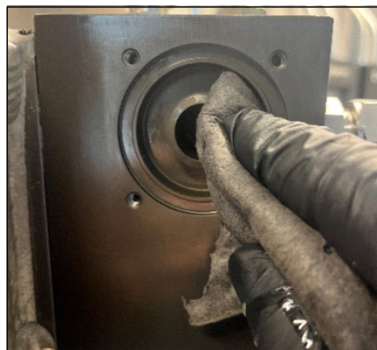

Figure 7. Clean Inlet Valve Cavity
- Inspect the Inlet Valve cavity on the HydrX Manifold for debris. Any debris should be removed from the cavity at this time (see Figure 7).